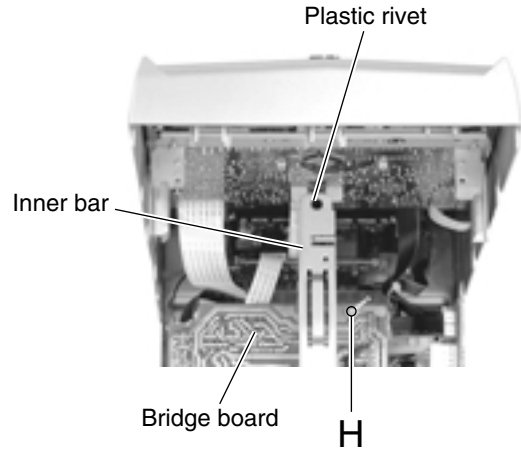

Fig.21
■Removing the bridge board / regulator board / heat sink (See Fig.21 ~ 27)